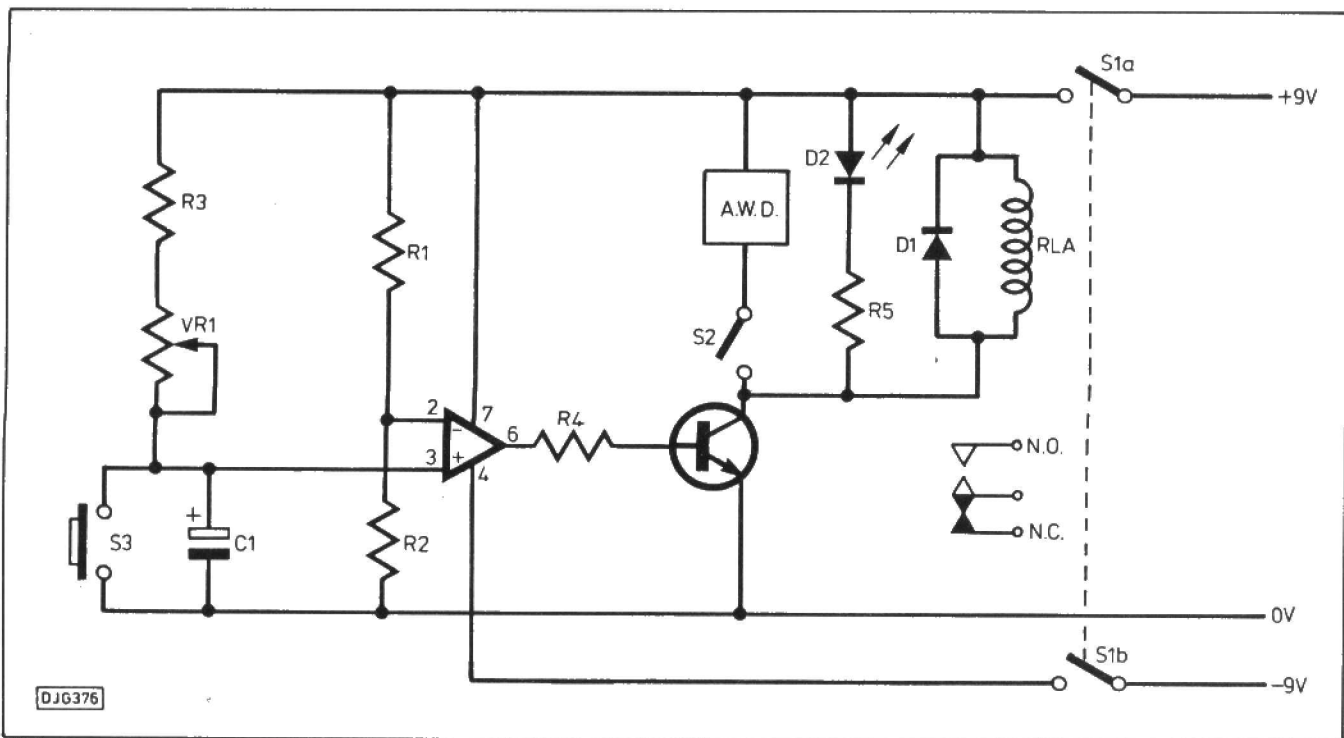

Fig.8. Practical delayed action timer circuit
For the final design I would suggest a move to the use of a voltage comparator based around a 741 operational amplifier. (Fig.8). This has a number of advantages over a single or even a double transistor switch. Firstly, larger values of R and C can be used to obtain longer delays. Secondly, the switching threshold can be set by another pair of resistors, R1 and R2, acting as a potential divider. The gain of the 741 is very high when used in open loop mode and therefore the switching action is very positive. Although the 741 would drive many output devices directly, the addition of a single stage transistor switch driving a general purpose relay with both normally open (NO) and normally closed (NC) contacts ensures that currents in excess of 1A can be provided. If the relay is a mains type then the possibilities are almost endless.